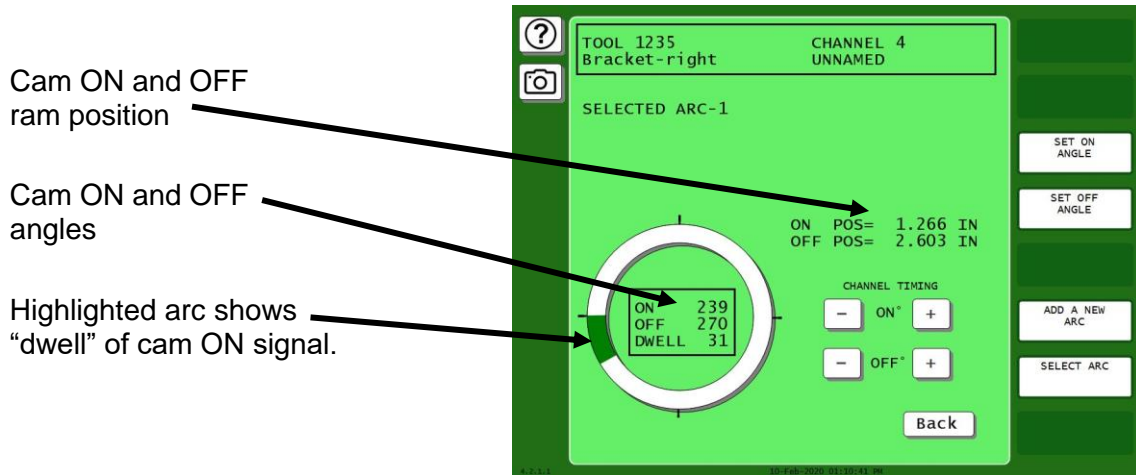

Figure 5-47. Cam Channel On/Off Program Screen
1. Select PROGRAM ON/OFF ANGLES on the Cam Channel Program Type Menu. The Cam Channel On/Off Program screen displays, Figure 5-47.